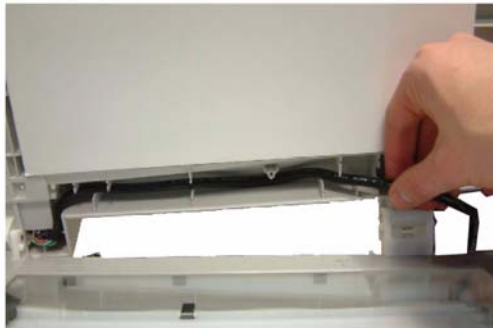

Figure 7
6. Remove the ground cable, the ADF cover sensor connector and the paper sensor connector from their cable guide then slide them out of the ADF cover, Figure 7.